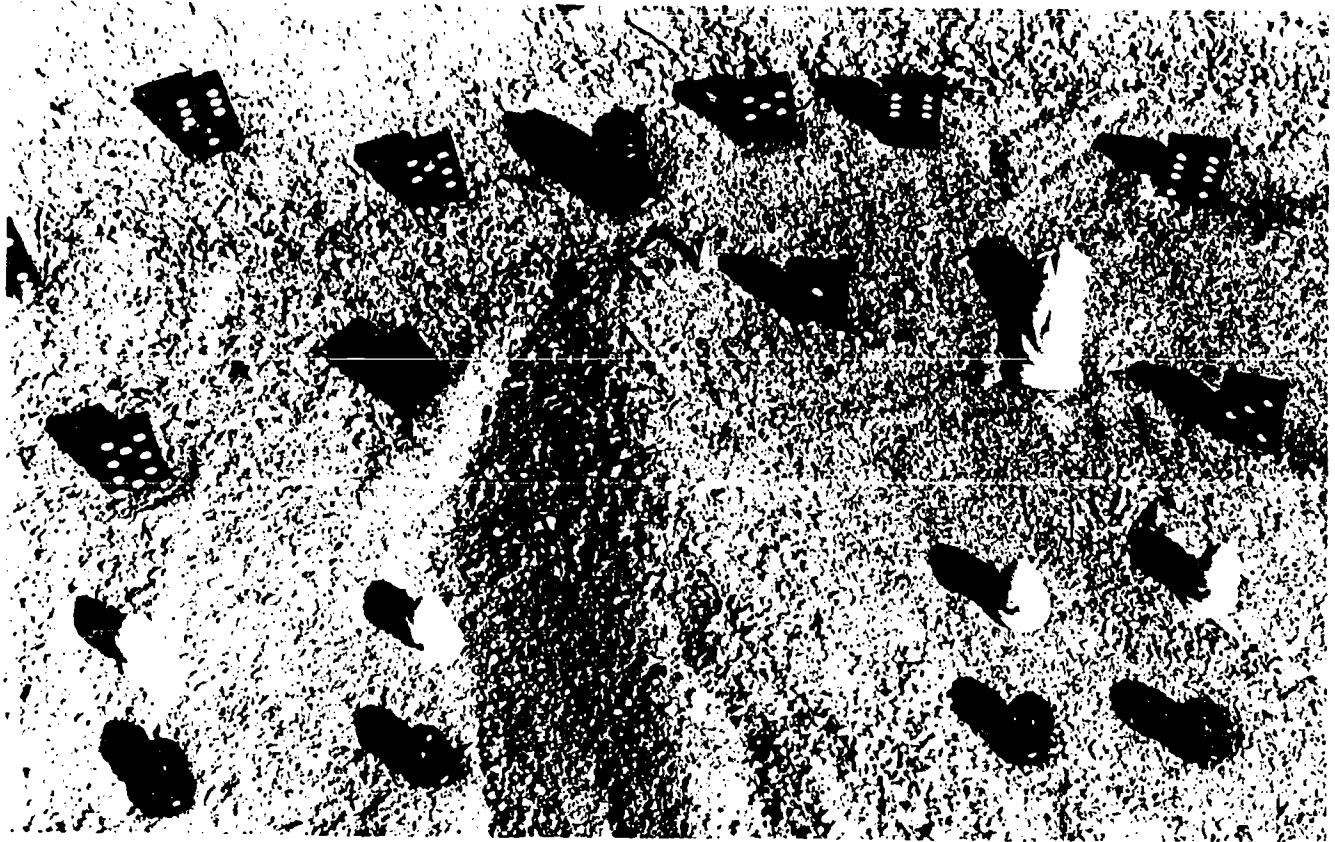

Figure 1-24. Use of tones and contrast.
**Tone and Contrast.** In black-and-white photography, the rendering of the subject in various shades of gray and the contrast relationship of these shades is very important in determining the final visual effect. The selection of the subject, background, foreground, and lighting creates a critical combination. Remember, the tone of each element will be determined by how much light it reflects. The more light, the lighter will be the tone. In this regard the appropriate use of a filter can be particularly helpful, especially when different colored objects may be reflecting the same amount of light. The selection of your film/developer combination will also have an important bearing on your recording. It is best to think about all of this when you are shooting, rather than rely on darkroom manipulation. Notice the difference that tones and contrast make in figure 1-24.